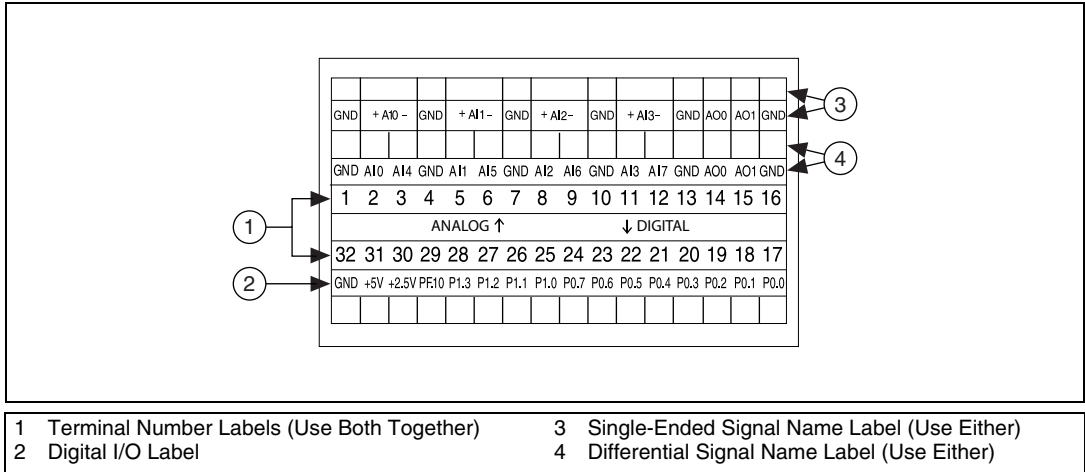

Figure 5. NI USB-6008/6009 Signal Labels
2. Figure 5 illustrates the signal labels that ship in the NI USB-6008/6009 kit. You can apply the signal labels to the screw terminal blocks for easy signal identification.
3. Refer to Table 4 and Figures 5 and 6 for signal label orientation and affix the provided signal labels to the screw terminal blocks. Until the signal labels are applied, you can insert the screw terminal blocks into either of the combicon jacks.